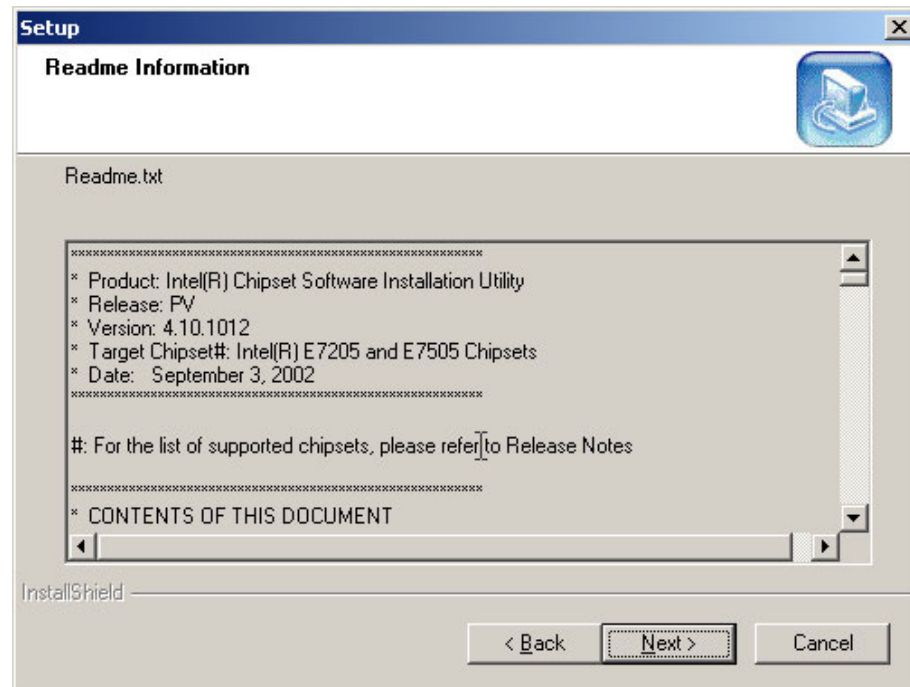

Figure 2-24 Review Readme Information
7. The Readme Information will be displayed. Click the **Next** button as shown in Figure 2-24 on page 35.